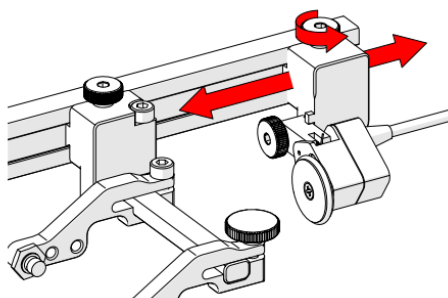

Fig. 2 - Encoder positioning
2. The encoder position may be adjusted by loosening the encoder adjustment knob (Fig. 2).